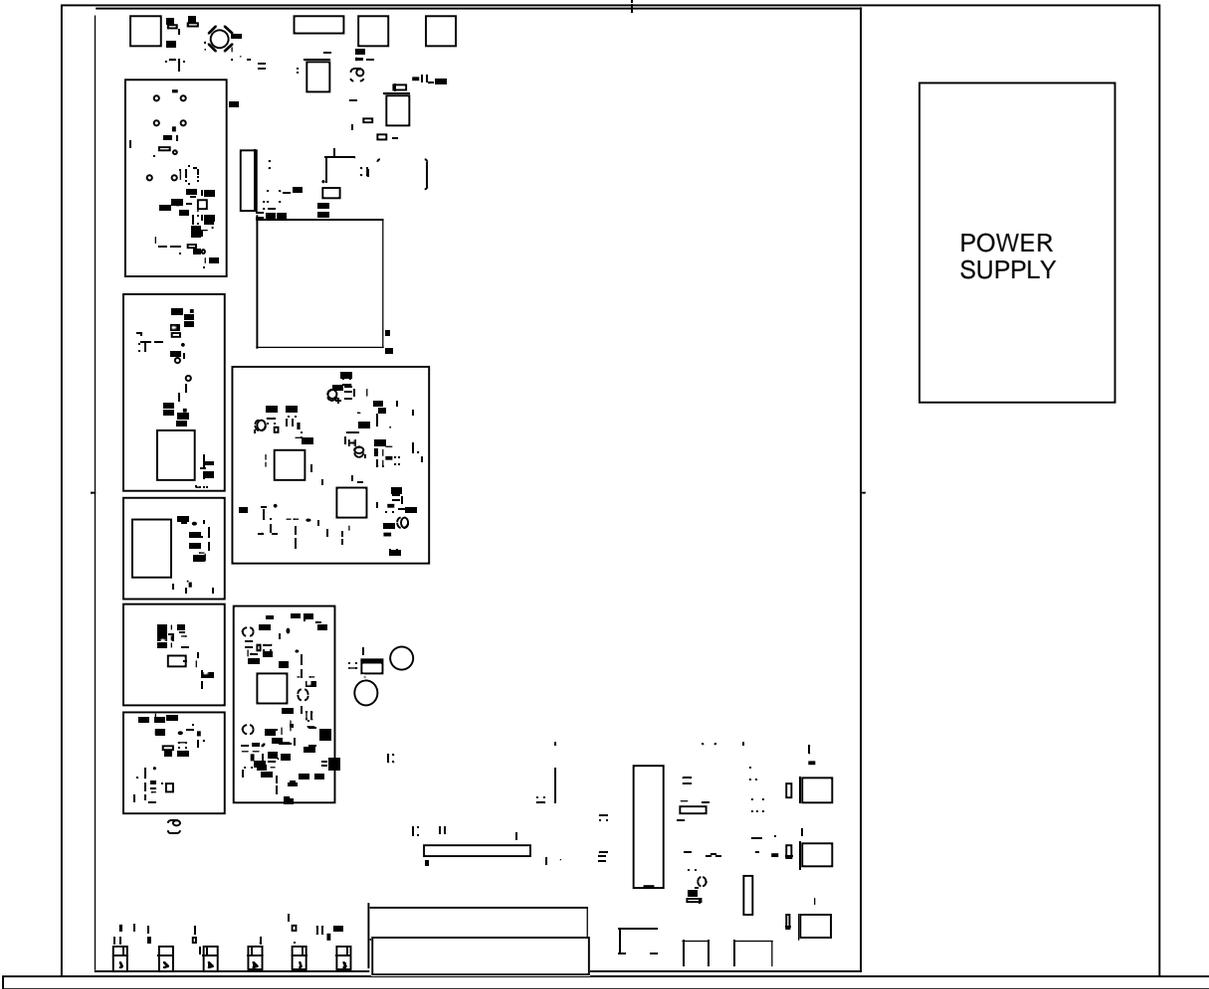

FIGURE 2.0 2019-4x Mechanical Assembly
2.1 Mechanical - The 2019-4x consists of an RF/Controller PCB and a splitter/combiner PCB housed in a 1 RU (1 3/4 inch high) by 16 inch deep chassis. A switching, ± 12 , +24, +5 VDC power supply provides power for the assemblies. The 2019-4x can be secured to a rack using the 4 holes on the front panel. Figure 2.0 shows how the 2019-4x is assembled.